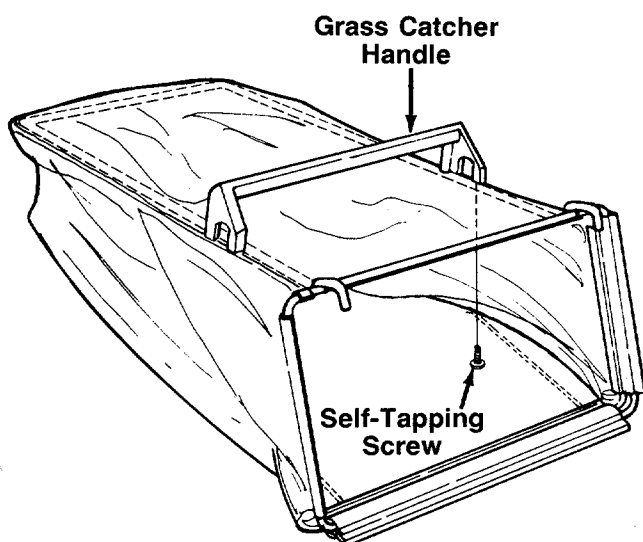

FIGURE 9.
6. Place the grass catcher handle in position on top of the grass bag and frame as shown in figure 9. Secure with four self-tapping screws (Ref. 8).